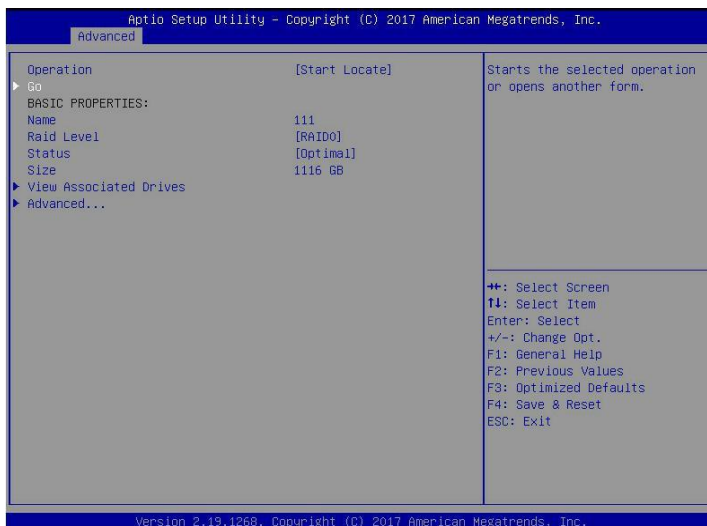

Figure 6-63
d) Enter the interface of Figure 6-63, select Go, and press Enter.
❖ Figure 6-63 Select Go